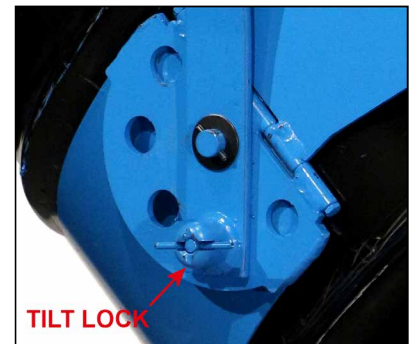

Figure 4.4
4. Either one of the two spring loaded plunger tilt locks (Figure 4.4) may be locked to hold drum upright. Unlocking both will permit drum to be tilted. Drum pouring angle may be varied or drum can be locked in various positions by inserting one tilt lock. It is not necessary to lock both tilt locks. Before unlocking tilt lock it is recommended that you steady drum and prepare to resist its tendency to tilt toward its heavy end.